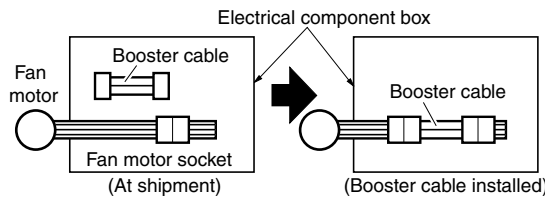

Fig. 3-98
- (1) Remove 4 screws on the electrical component box and remove the cover plate.
- (2) Disconnect the fan motor sockets in the box.
- (3) Take out the booster cable (sockets at both ends) clamped in the box.
- (4) Securely connect the booster cable sockets between the disconnected fan motor sockets in step 2 as shown in Fig. 3-98.
- (5) Place the cable neatly in the box and reinstall the cover plate.